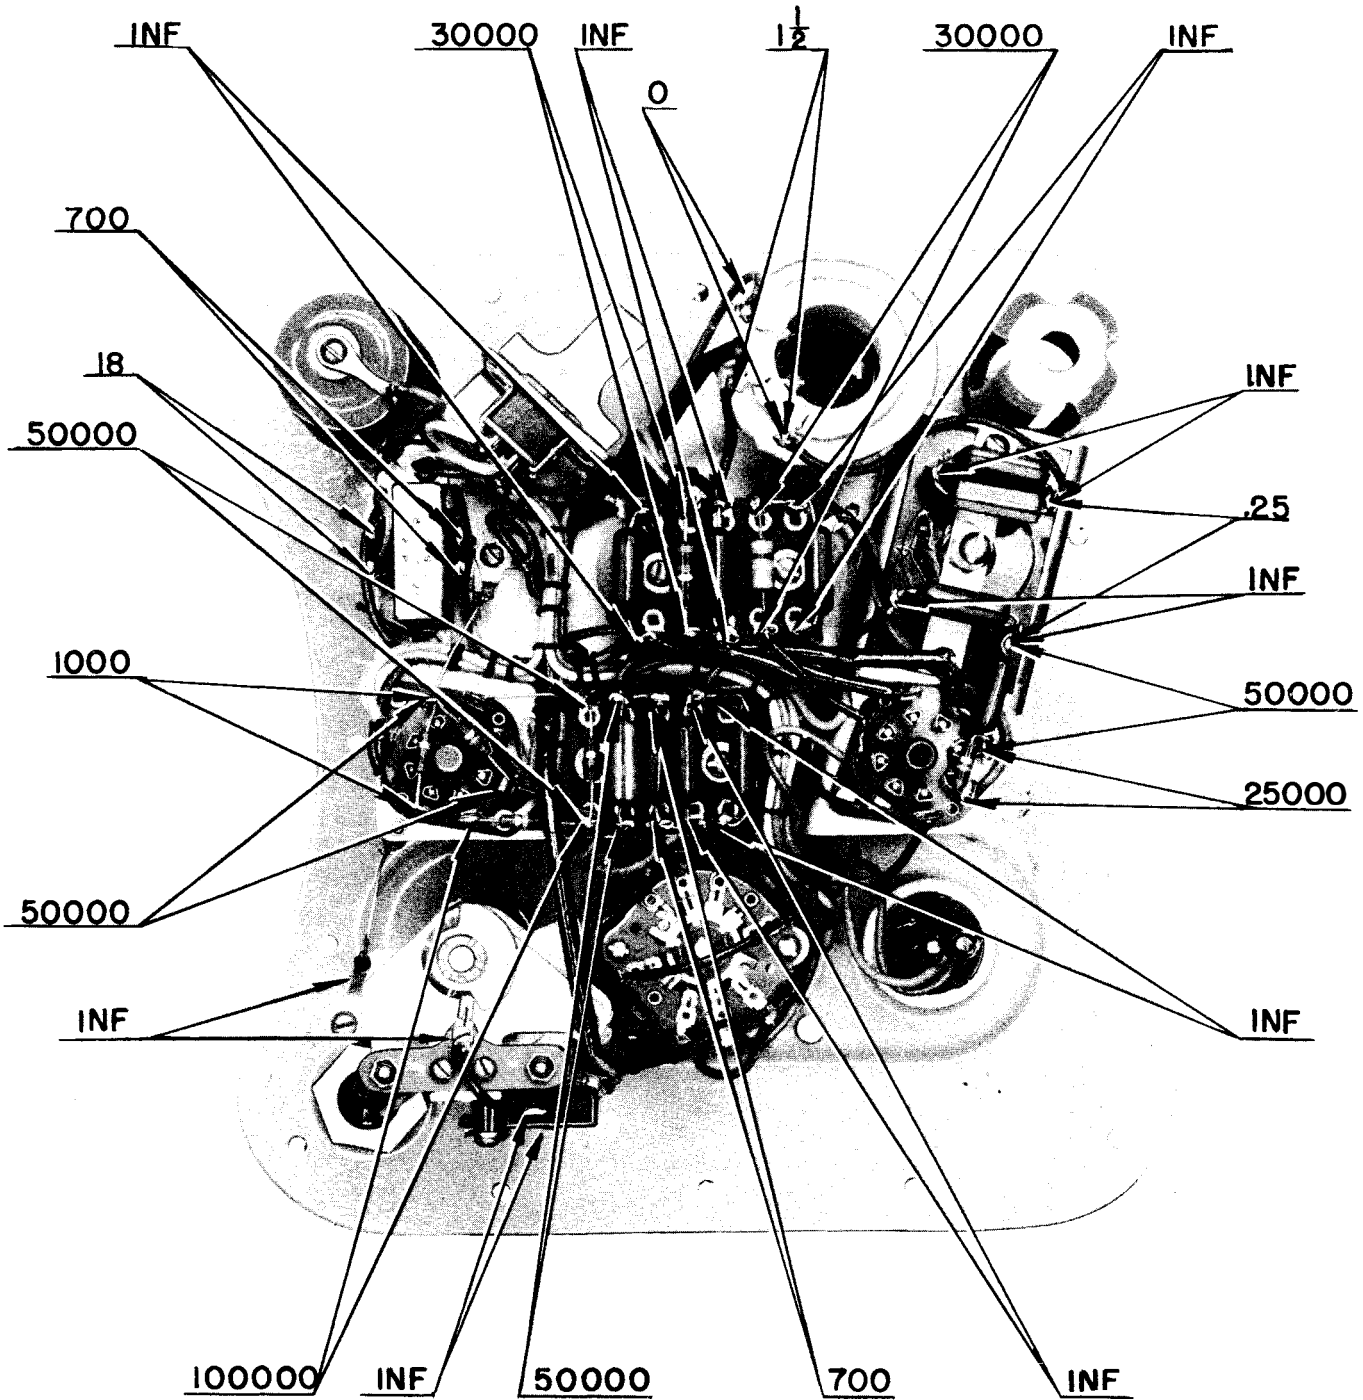
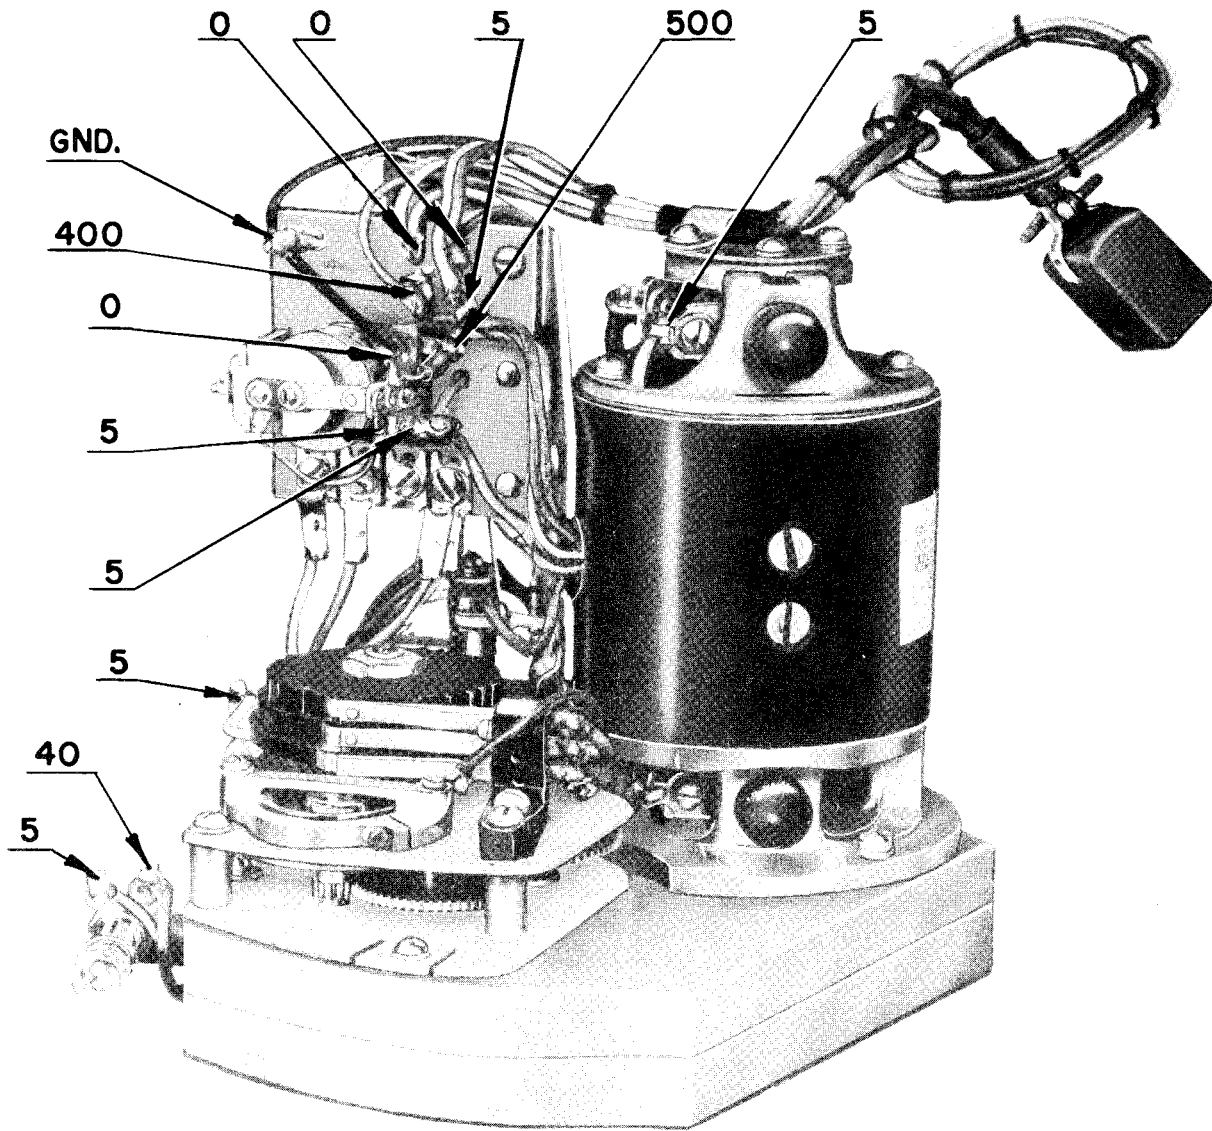

Figure 27—Radio Transmitter BC-778-C, BC-778-D or BC-778-E, Point Resistances of Cover
Figure 29—Radio Transmitter BC-778-C, BC-778-D or BC-778-E, Point Resistances of Power Supply
i. Approximate values of resistance for all models, except Radio Transmitter BC-778-A, are shown in figure 27 for the cover and in figure 29 for the power supply. These readings are all in ohms. In figure 27 the points between which the readings are to be taken are indicated by arrows. In figure 29 all readings are above the ground point indicated on the diagram.